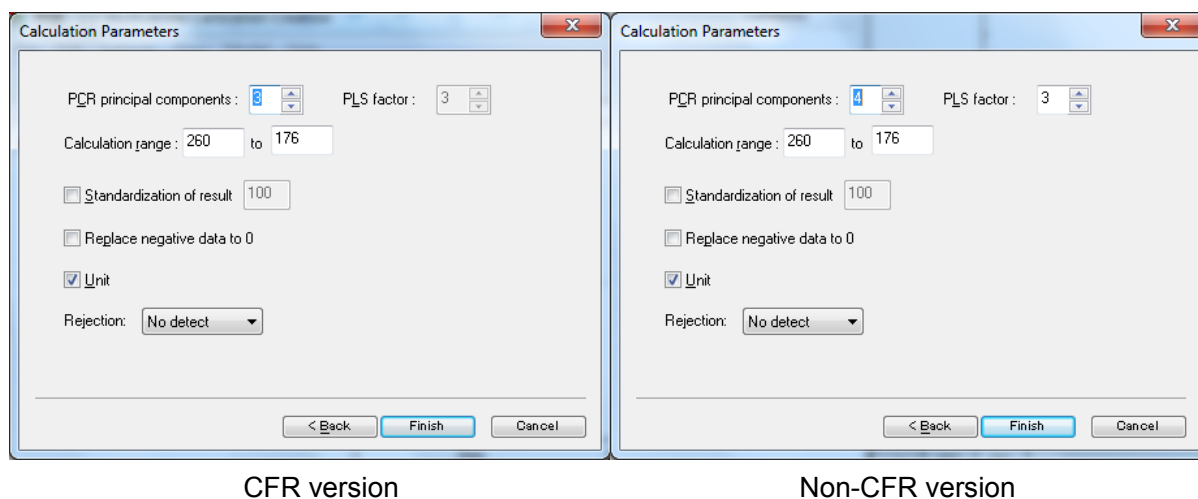

Figure 2.5 [Calculation Parameters] dialog box
- (1) Click the <Next> button in the dialog box in Fig. 2.4 to display the dialog box in Fig. 2.5. Set the parameters here. The values for [PCR principal components] and [PLS factor] can be changed after creating a calibration model. In this example, enter "4" for [PCR principal components] and "3" for [PLS factor].
- (2) Click the <Next> button until the [Calculation Parameters] dialog box in Fig. 2.5 is displayed. In [PCR principal components], enter the values written down as instructed in Sections 2.4.2 and 2.4.3 and then click the <Finish> button.
- (3) In [Calculation range], enter the range written down, as instructed in Section 2.4.1.
- (4) Select [Calculate] from the [Model] menu or click the  tool button. The calibration model is recalculated.